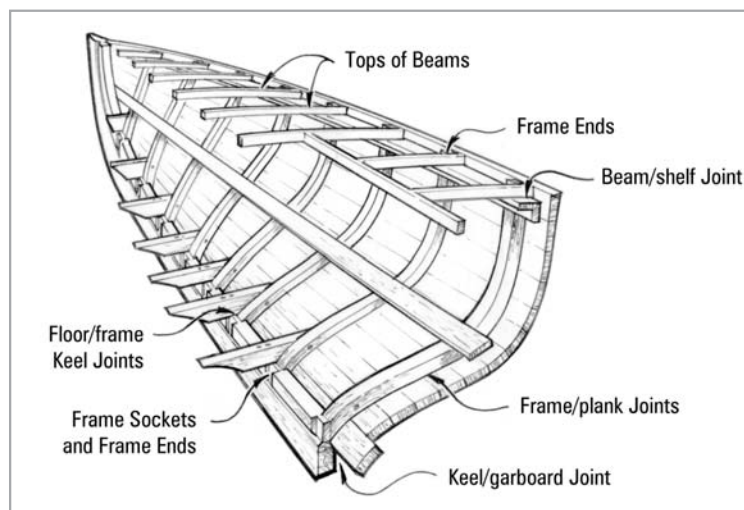

Figure 2-4 Look for dry rot at joints and areas of standing water and poor air circulation.
4. Inspect each structural member and its fasteners to see if they can still carry their intended load. Use an ice pick or other sharp tool to probe for areas of dry rot. Look for rot in areas of poor air circulation, where parts contact each other and around fasteners. If the damage is from an impact or fatigue, look for cracked frames or loose fasteners away from the obviously damaged area (*Figure 2-4*).